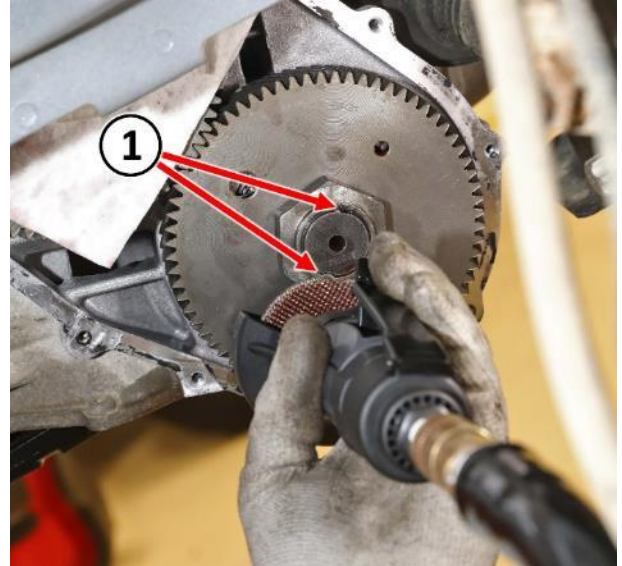

Figure 21 – Grind Off Stakes
32. Grind the stakes (1) off transfer gear nut (Figure 21).